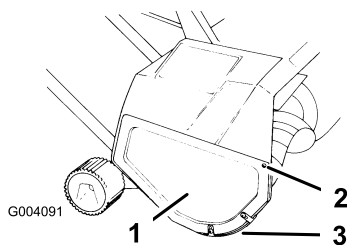

Figure 12
1. Remove the 3 screws that secure the right side cover and the skid to the snowthrower frame (Figure 12).